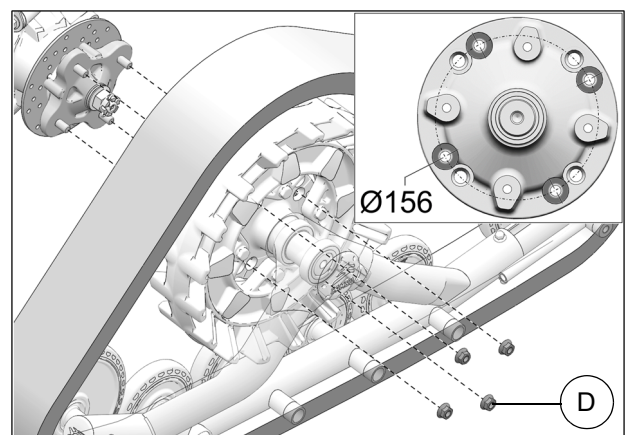

Fig. 20
- Secure undercarriage to front hub using the provided M10 lug nuts (D). Use bolt circle Ø156mm. See Fig. 20